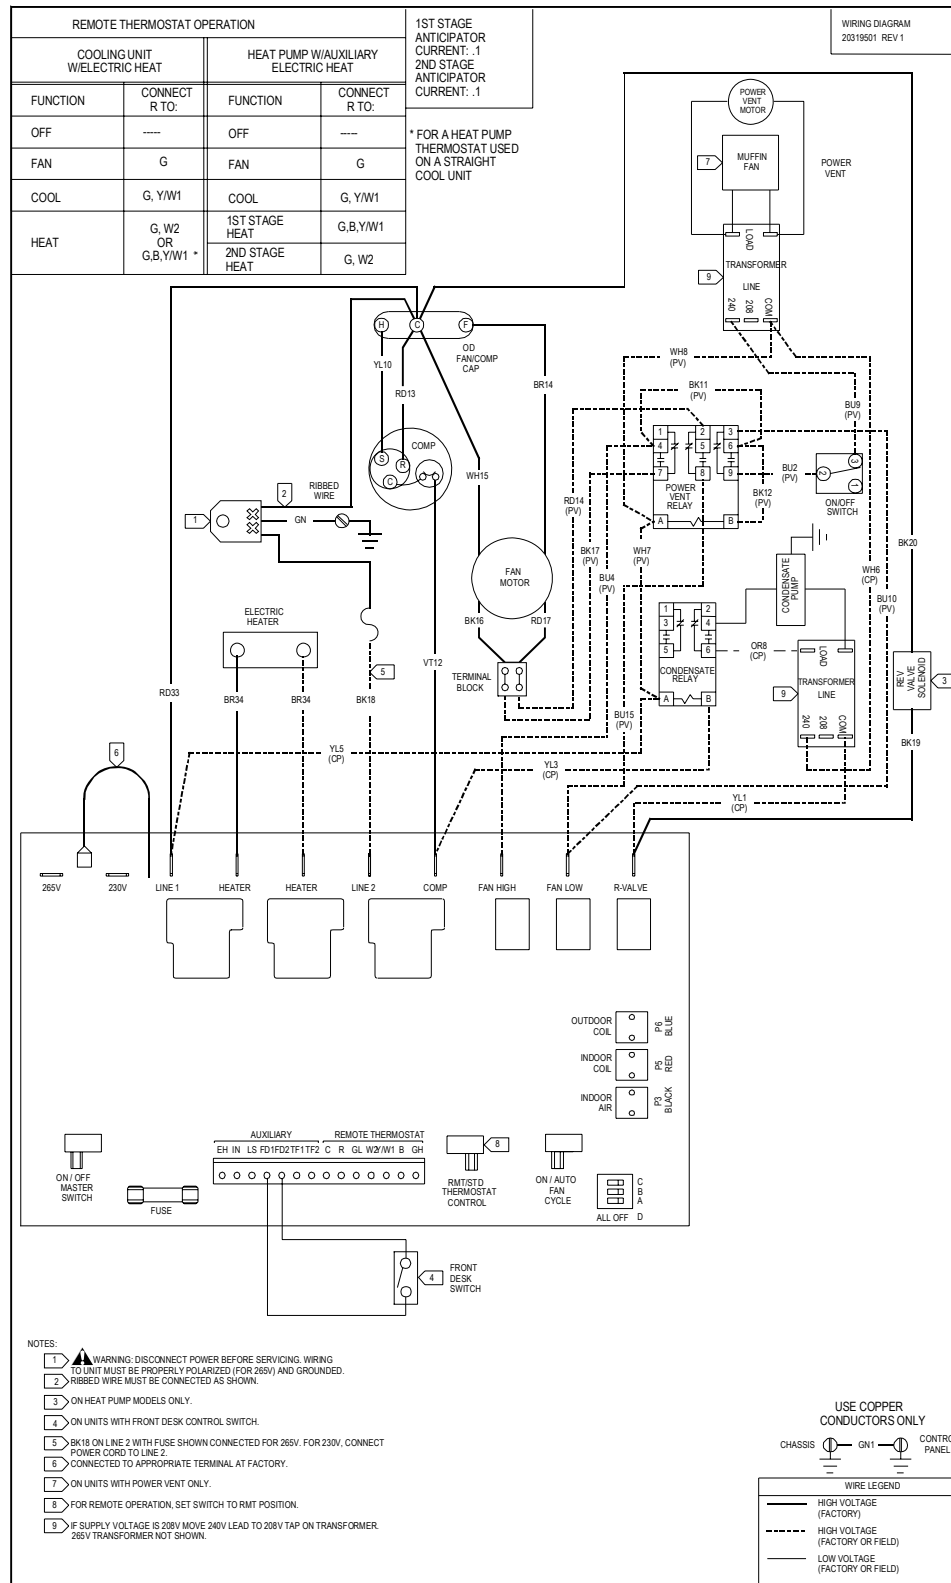

Figure 13
23. Units that have a Power Vent or Power Door Kit already installed in the chassis should refer to Figure 13 for proper wiring of the condensate pump kit. Use the second set of transformer holes to mount the transformer.